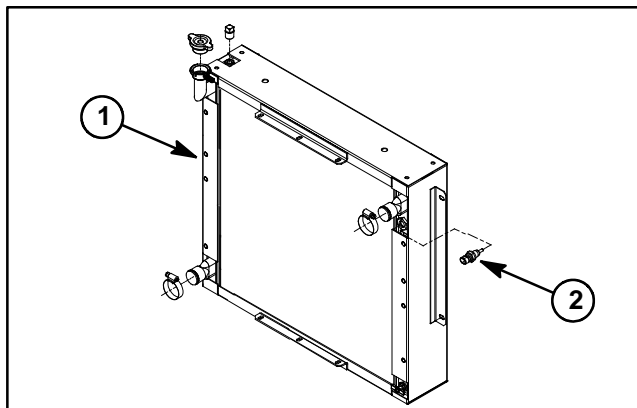
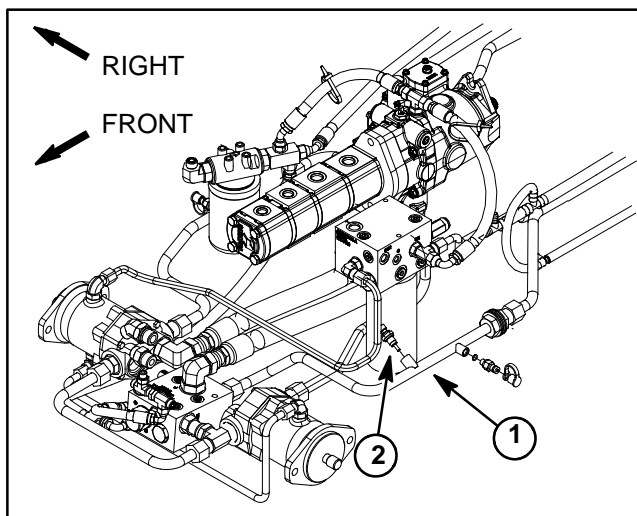

Figure 62
Figure 63
The Groundsmaster 4000-D and 4010-D use two (2) temperature senders as inputs for the TEC-5002 to identify if either the engine coolant or hydraulic oil temperature has reached an excessive level. These senders are identical. The coolant temperature sender threads into the radiator (Fig. 62). The hydraulic oil temperature sender is attached to the hydraulic hydraulic tube on the left side of the machine (Fig. 63).